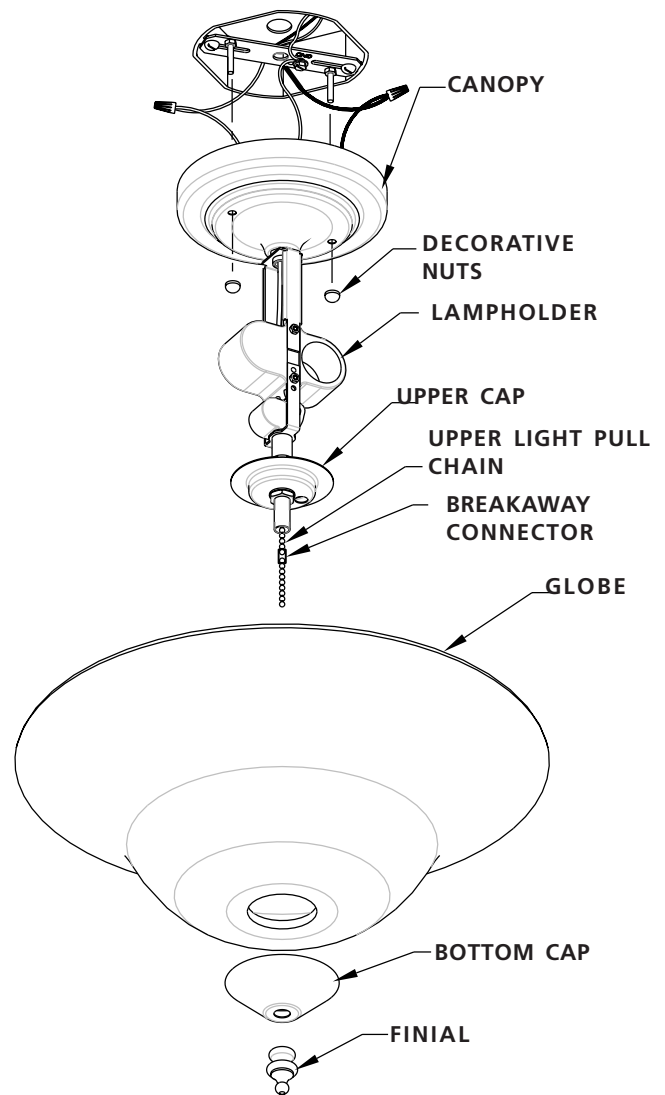

FIGURE 3
**NOTE:** Refer to Figure 3 for the steps below.
**NOTE:** Refer to Figures 3 and 4 for the steps below.
NOTE: Refer to Figure 3 for the steps below .
3. Locate and install the fan mounting plate over the pipe nipple as shown in Figure 3.